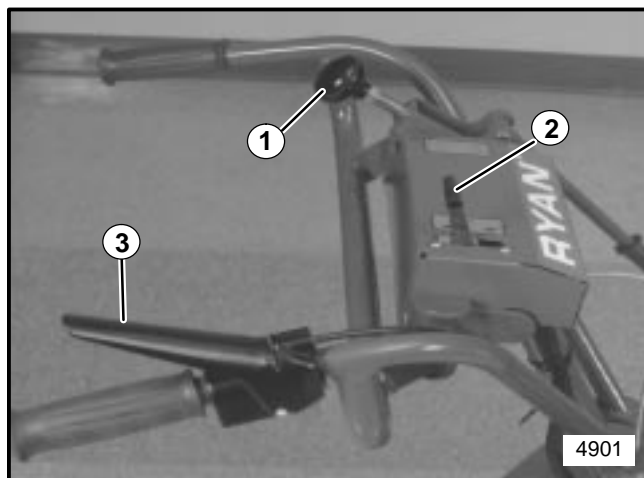

FIGURE 2
Clutch Control Lever	Engages or releases drive belt and applies brake action to drive belt when pulled FIRMLY to rear. See Figure 2, item 1.
Throttle Control	Speeds up or slows down engine. See Figure 2, item 2.
Operator Presence Control	With clutch control engaged, engine will stop if operator presence lever is not depressed. See Figure 2, item 3.